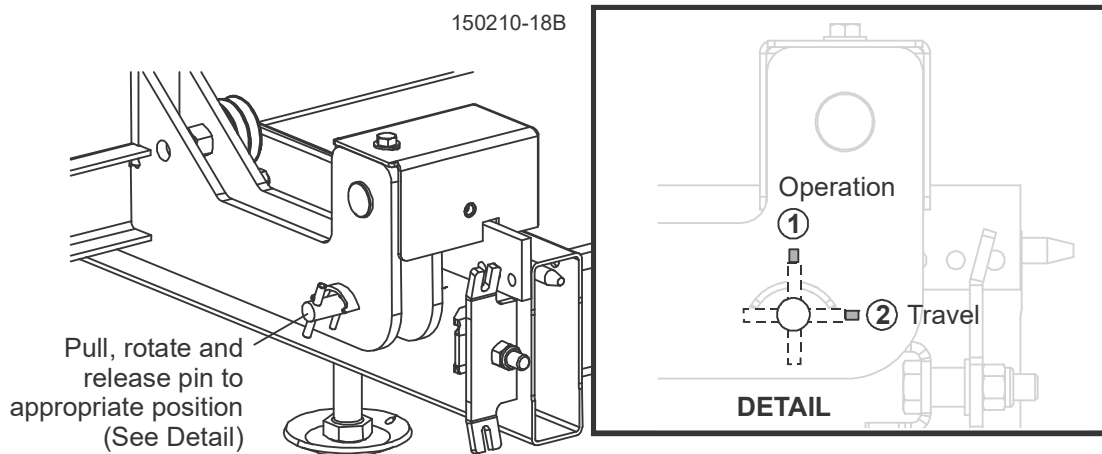

FIG. 3-7
- 3). The other pin should remain in the operation position. See FIG. 3-7.